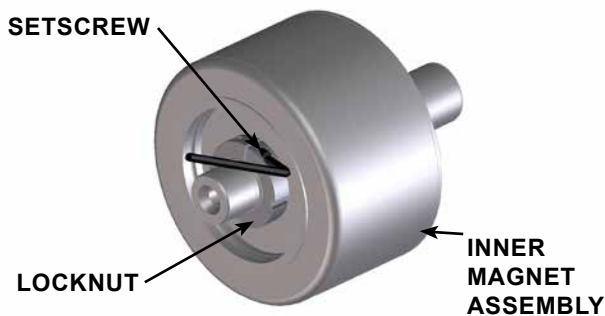

FIGURE 8
9. Visually inspect the outer magnets from the end of the bracket. If removal is necessary, separate the bracket from the motor. Remove the locknut (1), lockwasher (2) and outer bearing spacer collar (4) from the shaft. Slide the outer magnet assembly out of the bracket. Inspect the magnet assembly for damage or wear; replace if needed. If further disassembly of the bracket is required, see **“Disassembly / Assembly of Bracket Bearings”**.
10. Remove the socket head capscrews (54) from the canister (59). If the canister was not drained in Step 1, it will contain liquid. Use care when removing the canister from the pump by pulling it straight off. Inspect the canister bushing (64) for wear. If the canister bushing needs to be replaced, see **“Installation of Bushings”** on page 7.
11. Do not remove the O-ring from the plate adaptor (67) / canister unless it is bad, especially if it is PTFE (derivative) encapsulated. If a new O-ring is required, See **“Pump Assembly”** on page 8.
12. Insert a brass bar into the rotor (36) through a port between two rotor teeth and remove the split locknut (66), see **Figure 8**. Slide the inner magnet assembly off of the shaft. Make sure the outer thrust washer (60) does not come off with the inner magnet assembly. If the thrust washer hits the shaft key (62) it may crack or break. Do not forget this is a very strong magnet. Inspect the magnet assembly for damage or wear; replace if needed. If further disassembly is required, proceed to the next step.